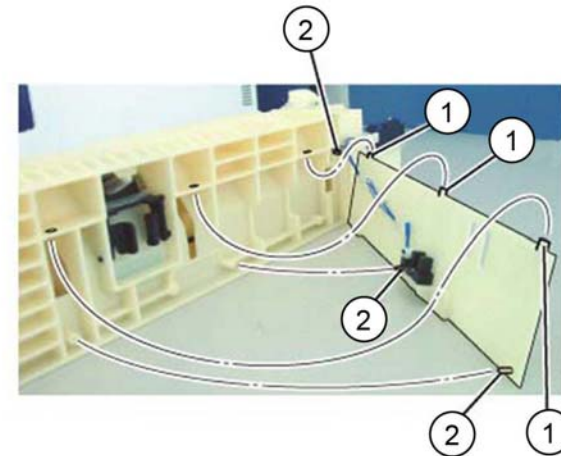

Figure 3 Bypass tray lower cover removal
4. Release three hooks (1) and three bosses (2) from the installation holes to open the bypass tray lower cover, Figure 3.